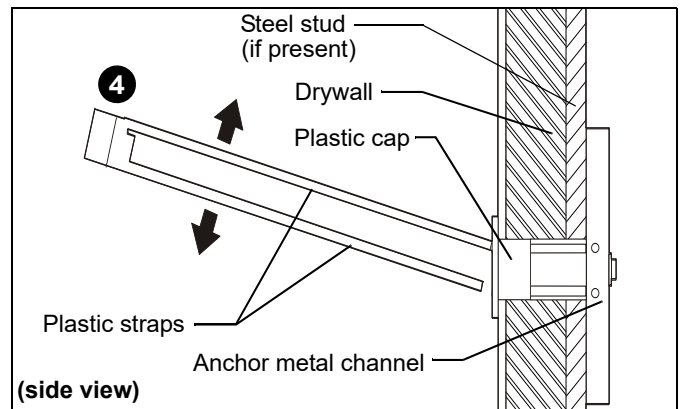

Figure 32
4. Snap off plastic straps on anchor at wall by pushing side to side, snapping off straps level with flange of plastic cap. (See Figure 32)